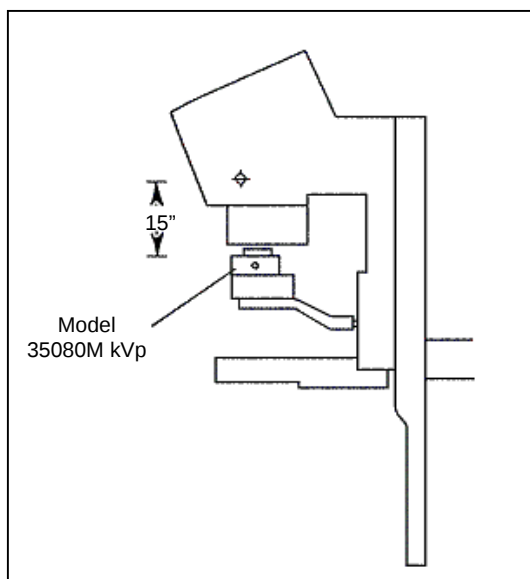

Figure 5-3. Linear Measurement Setup
1. Measurement Setup - Replace the Cadmium K-edge Mammo Filter Pack (37355) with the Linear Mammo Filter Pack (37351). Reposition the Model 35080M kVp Divider to approximately 15 inches from the focal spot by lowering the compression paddle or other support device (see Figure 5-3).